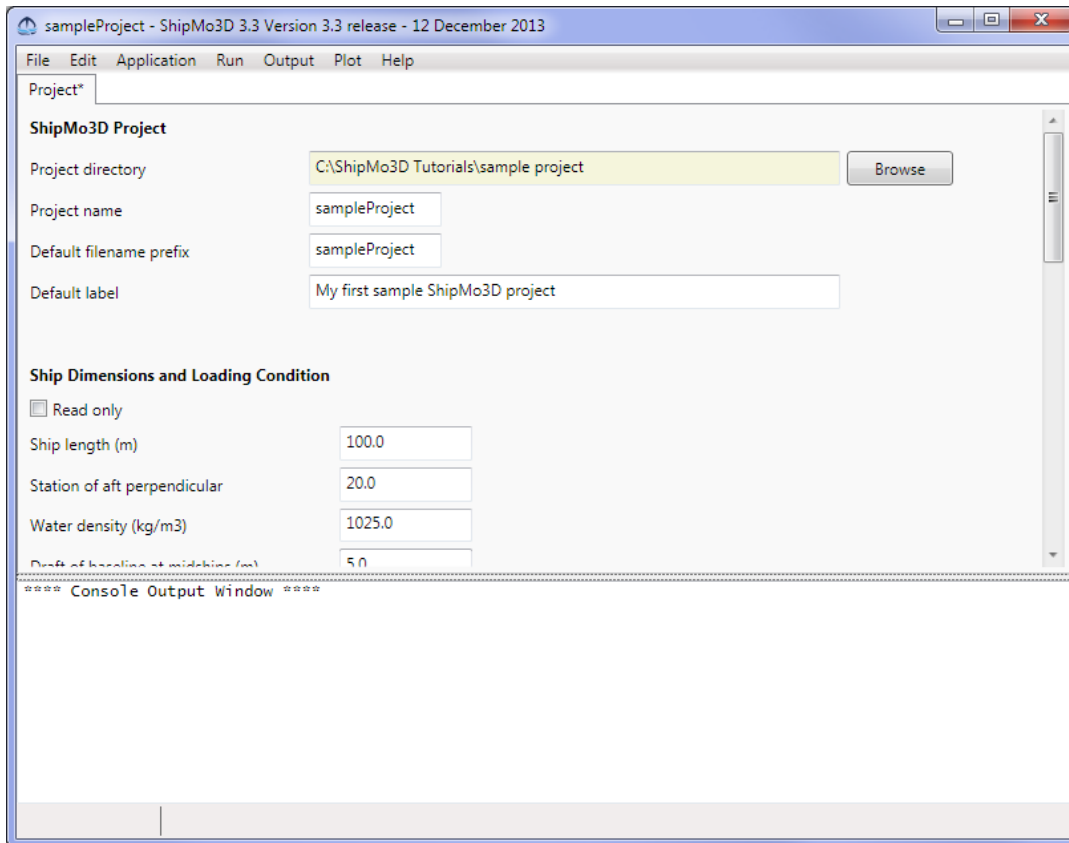

Figure 1: ShipMo3D project parameters.
- ★ Fill out the project information in the “ShipMo3D Project” section of the pan as shown in Figure 1: